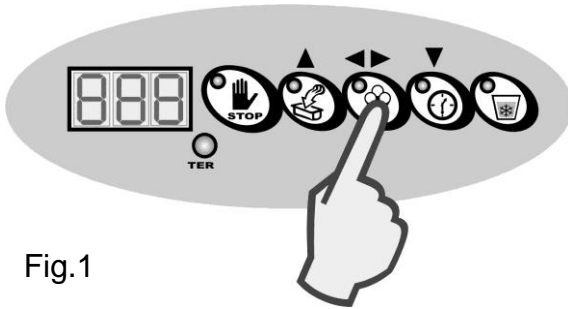

Fig.1
- Press the PRODUCTION key to start the automatic batch freezing cycle. (Fig. 1)